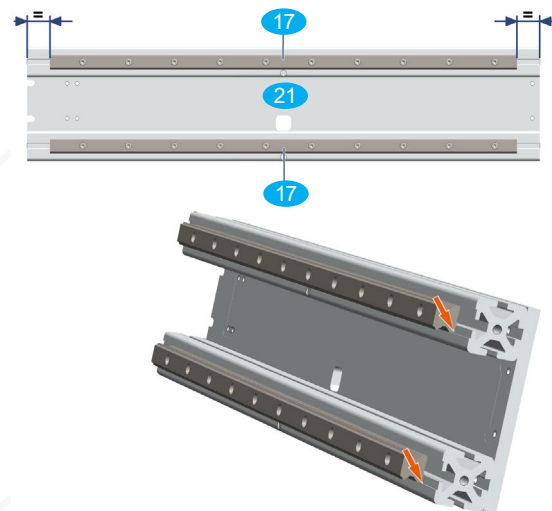

Fig. 18: Assembly of the Y linear guides
- Place the linear rails on the profiles of the portal beam in such a way that the lower edges of the linear guides marked with arrows in Figure 18 (detail) point to the milled stop edges.